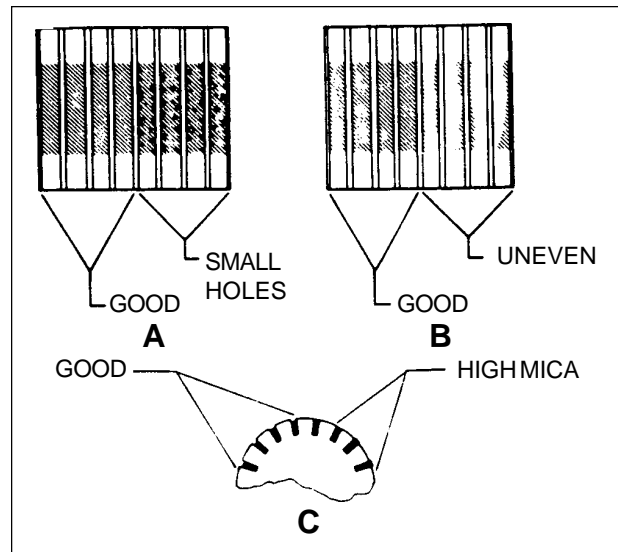

Figure 11
11. Inspect the commutator. See figure 11. Take the machine to a Clarke Technology authorized repair location if you see any of the following conditions:
- a. Small holes in the surface of the commutator. See "A" in figure 11.
- b. Uneven color. Look for an even dark brown color. Clean areas or very dark areas indicate a problem. See "B" in figure 11.
- c. High mica. The mica insulation must be lower than the commutator bars. See "C" in figure 11.